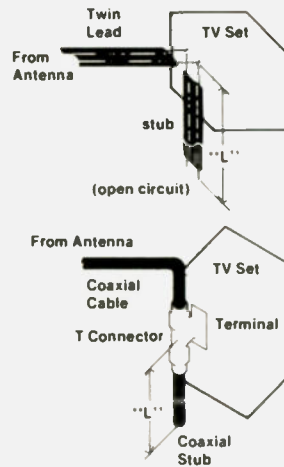

Fig. 12.
3. Another type of stub, called an open circuit quarter-wave type, can be made from the same type of wire as the antenna lead-in wire (see Fig. 12). The initial length of the stub should be 24" for RG-59/U coaxial cable or 29" for 300-Ohm twin lead wire. For other cables, the initial length can be determined by the general formula: